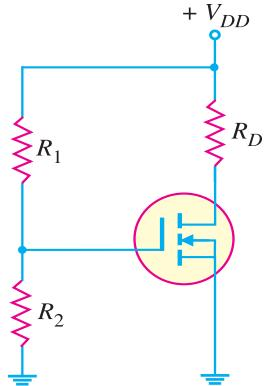

Fig. 19.60
**(ii) Voltage-divider Bias.** Fig. 19.60 shows voltage divider biasing arrangement for *n*-channel *E-MOSFET*. Since  $I_G = 0$ , the analysis of the method is as follows :